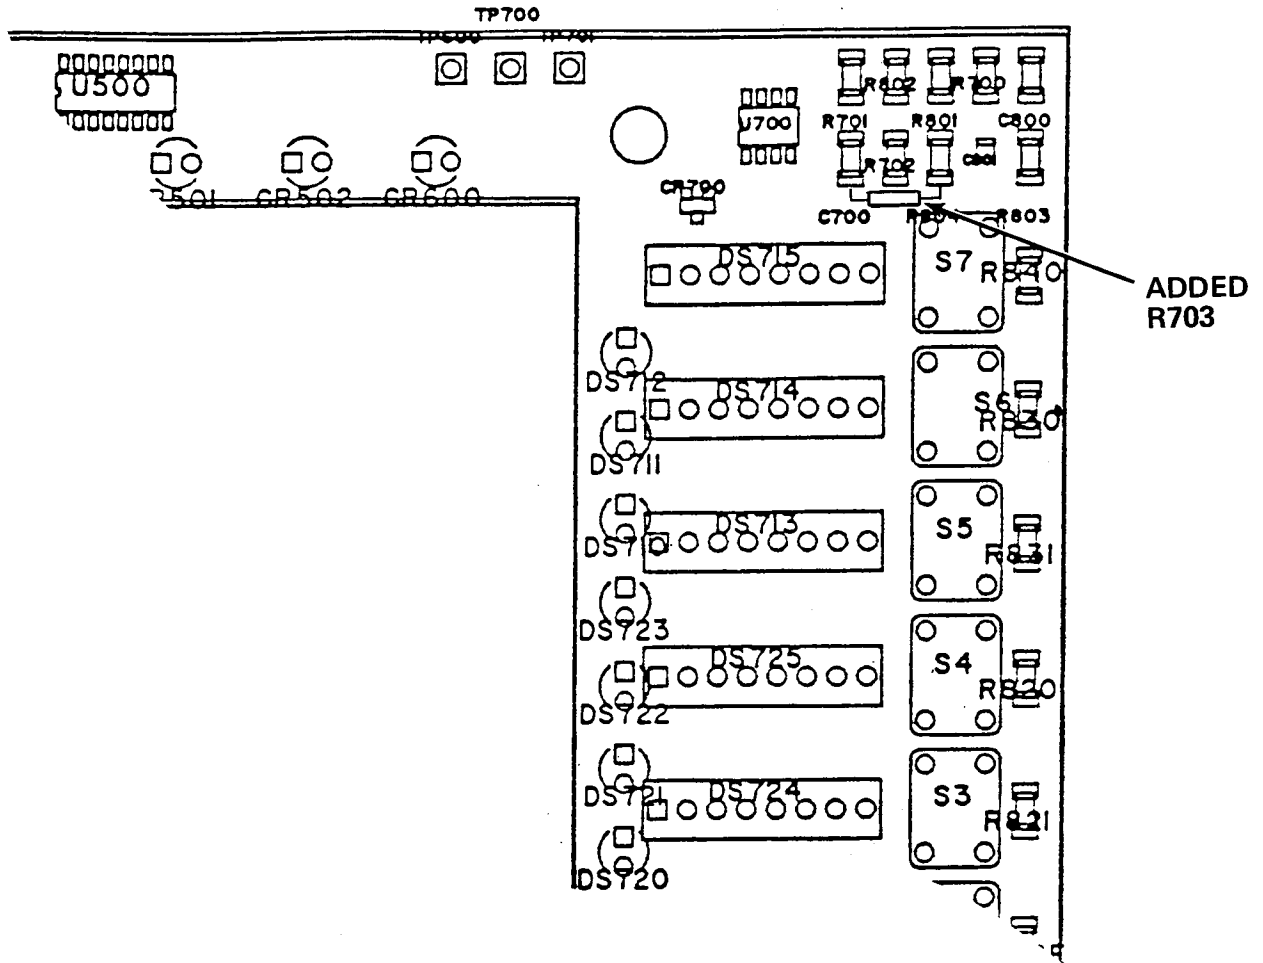

Figure 19. - Touch Panel circuit board A9.
- () 3. Add R703, a 56M Ω , resistor, pn 315-0566-00, that is provided in kit, to the Touch Panel circuit board. Solder one lead of R703 resistor to C700 solder pad nearest to S7. Solder the remaining lead of R703 to end of R804 solder pad, nearest to S7, refer to figure 19.